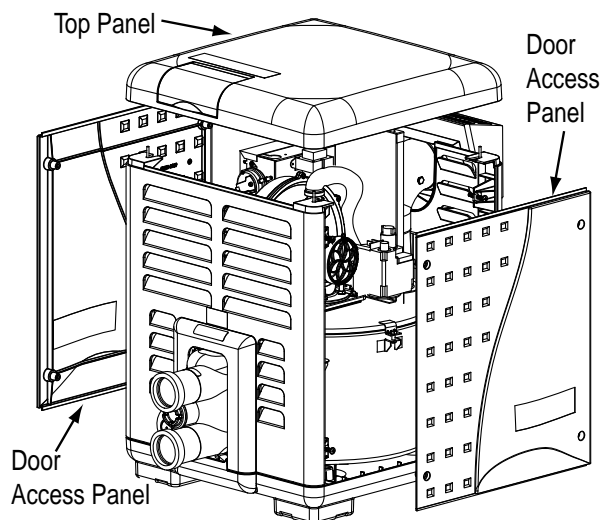

Figure 6.
1. Unbolt and remove the door panels (see Figure 6).